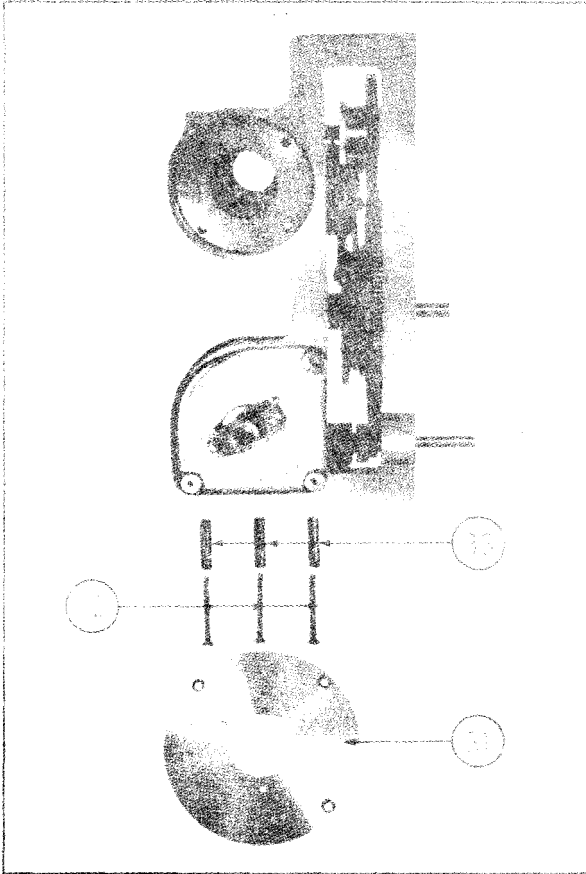
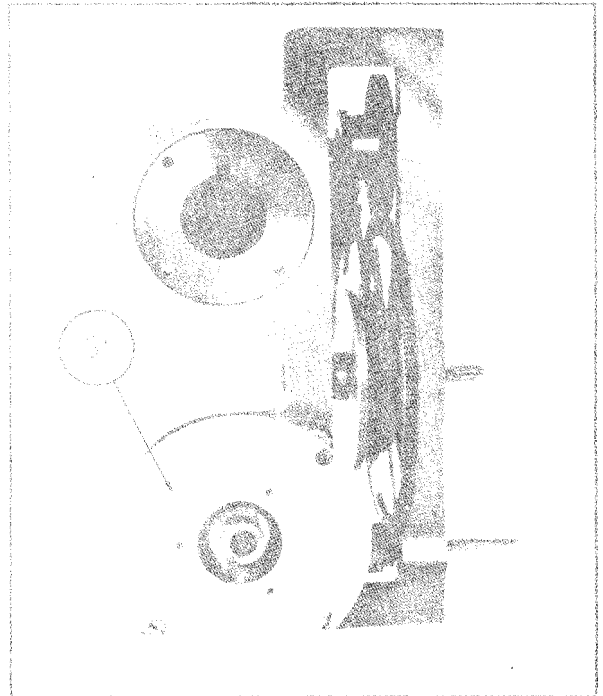

Figure 4-23. Parts Comprising Mounting Bracket for Potentiometer R-173
Figure 4-24. Bracket for Potentiometer R-173 in Place
Figure 4-23 shows the repeller potentiometer mounting bracket (31) with the 6-32 x 1½ inch machine screws (32) and 1-1/16 inch long spacers (33) which mount it to the casting. The parts should be assembled and mounted to the casting as shown in figure 4-24. It is desirable to cement the mounting screws with glyptol or some similar cement.